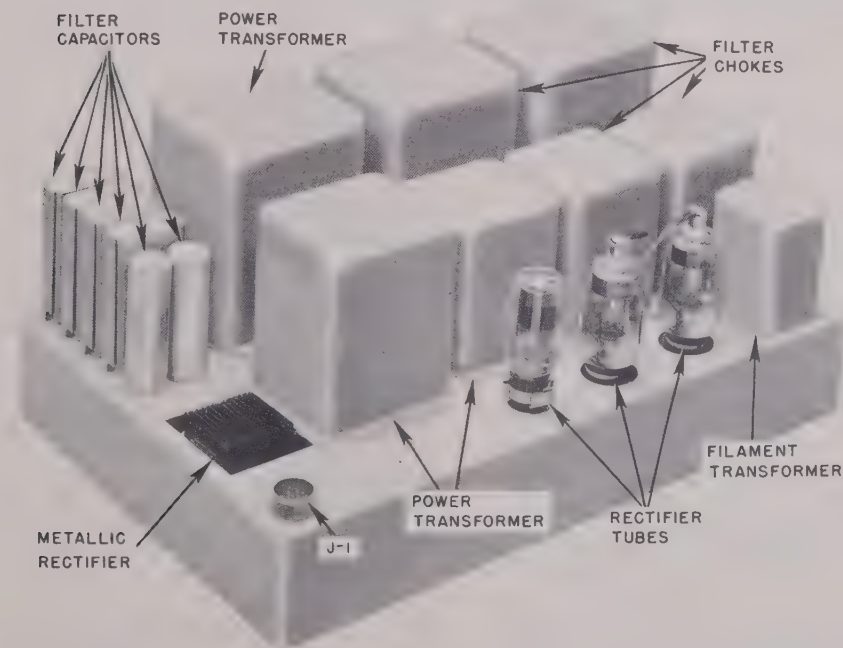

Figure 13. Rectifier Power Unit Model 36D, low-voltage rectifier assembly
d. Low-Voltage Rectifier Assembly (fig. 13). The l-v (low-voltage) rectifier assembly is mounted on the second